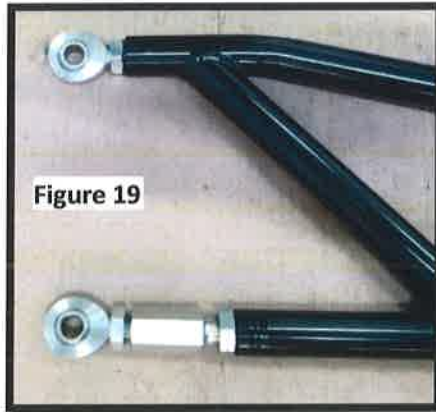

Figure 19
33. Install a jam nut onto the XMR10-12 rod end and fully thread into the rear upper torque arm connection. Back the rod end out two turns for initial install. **(Figure 19)**
34. Install left hand jam nut onto the linkage adjuster and fully thread into the lower rear torque arm connection. Both connections should be fully threaded. This is the connection for adjusting pinion angle. Final adjustments should be made with the truck at ride height. **(Figure 19)**